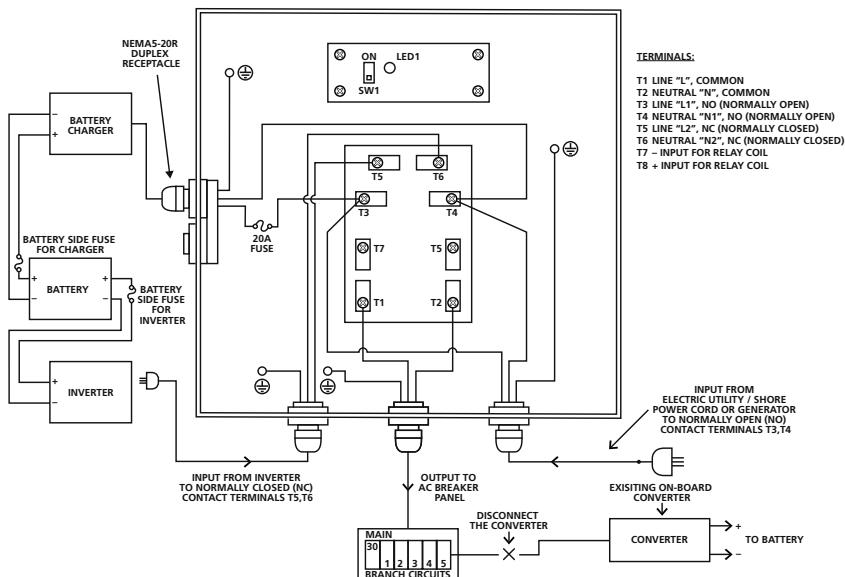

Fig.4. 30 A System for alternate source / inverter.
- a. Feed the 3 core cable from the electric utility / shore power cord / the generator through the $\frac{3}{4}$ " cable clamp that has been provided (4, Fig1). Connect the three cores as follows (Fig 4):
- b. Feed the 3 core cable for output to the main breaker panel by using a convenient knockout / cable clamp ($\frac{3}{4}$ " or 1") for the cable entry. Cable clamp has not been provided for this connection and has to be provided by the user. Connect the 3 cores as follows (Fig 4):
- c. Plug the NEMA5-15 plug (2, Fig 1) of the inverter power cord (1, Fig 1) to the output of the inverter (Fig 4). **Please ensure that the inverter is switched off and the battery input connection to the inverter is disconnected.**
- d. Plug the external battery charger to one of the receptacles of the NEMA-20R Duplex receptacle (3, Fig 1; Fig 4). **Please ensure that the AC input current of the battery charger is less than 16A continuous as the receptacle is internally fused at 20A max. In case the current drawn by the external battery charger is > 16A continuous, the charger should be wired to a separate circuit connected to the NO contact terminals T3 and T4 through a fuse applicable to the input current of the charger.**
- e. **In case the Transfer Switch is being used in an RV application, the built-in converter of the RV should be disconnected from the AC Breaker Panel (Fig 4).** This is necessary because when the electric utility / shore power cord / the generator fails / is removed, the panel will be fed by the inverter and if the converter is not disconnected from the panel, it will result in a battery to inverter to converter to battery loop that will quickly drain the batteries. In case the external battery charger is not being used, the converter may be re-wired to the NEMA5-20R Duplex receptacle (3, Fig 1). As these receptacles are connected to the NO contact terminals T3 and T4, the converter will always be powered from the electric utility / shore power cord / the generator. **In case the current drawn by the converter is > 16A continuous, the converter should be wired to a separate circuit connected to the NO contact terminals T3 and T4 through a fuse applicable to the input current of the converter.**
TESTING OF THE OPERATION (FIG 4)